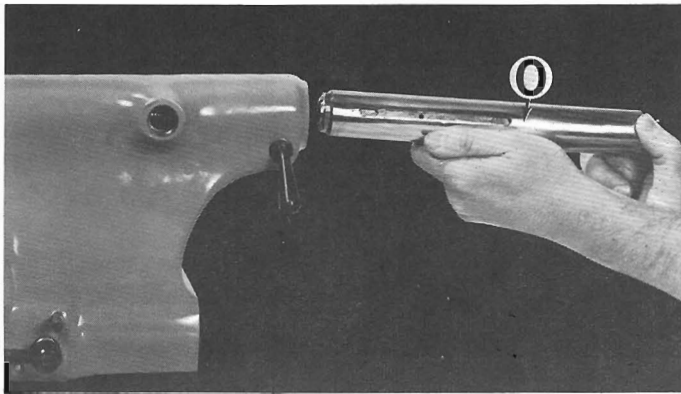
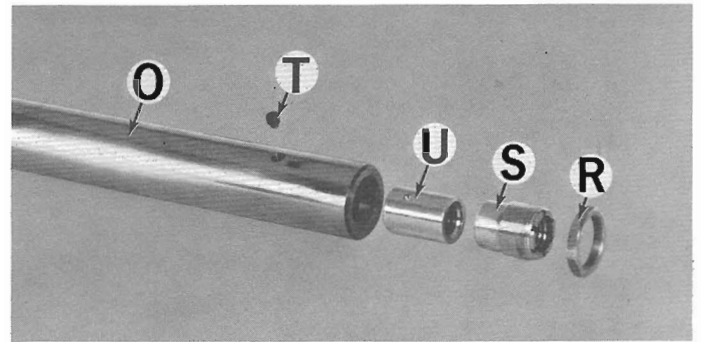
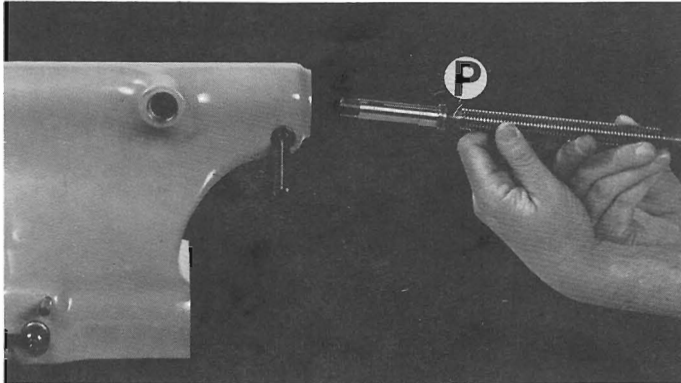
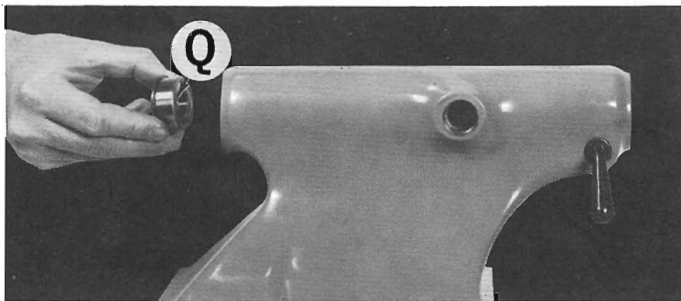

Figure 177 — Tailstock Spindle Removal
Figure 180 — Adjustable Feed Screw Nut
Figure 178 — Feed Screw Removal
Figure 179 — Feed Screw Bearing Removal
- (G). Remove tailstock spindle "O", Figure 177, feed screw "P", Figure 178, and bearing "Q", Figure 179. **EXTREME CARE SHOULD BE EXERCISED TO PREVENT DAMAGE TO PRECISION SURFACES OF SPINDLE DIAMETERS AND TAILSTOCK BODY BORE.**
- (H). Remove nut "R", Figure 180, half nut "S", screw "T" and half nut "U" from tailstock spindle "O".
- (A). Replace half nut "U", Figure 180, and screw "T". Assemble half nut "S" leaving sufficient projection for lock nut "R". Assemble lock nut "R" but do not tighten.
- (B). Thread feed screw "P", Figure 178, into feed screw nut and spindle slowly while turning half nut "S", Figure 180, gradually until half nut threads line up permitting feed screw to pass through half nut "U".
- (C). Turn half nut "S" inward until a slight backlash is encountered when feed screw is turned. Hold half nut "S" and lock nut "R". Remove feed screw. When tailstock is reassembled there should be a maximum backlash of three graduations on dial handwheel.
- (D). Replace bearing "Q", Figure 179. Lubricate feed screw "P", Figure 178, with Cosmolube #2 and spindle "O", Figure 177, with spindle oil. Replace feed screw and spindle.